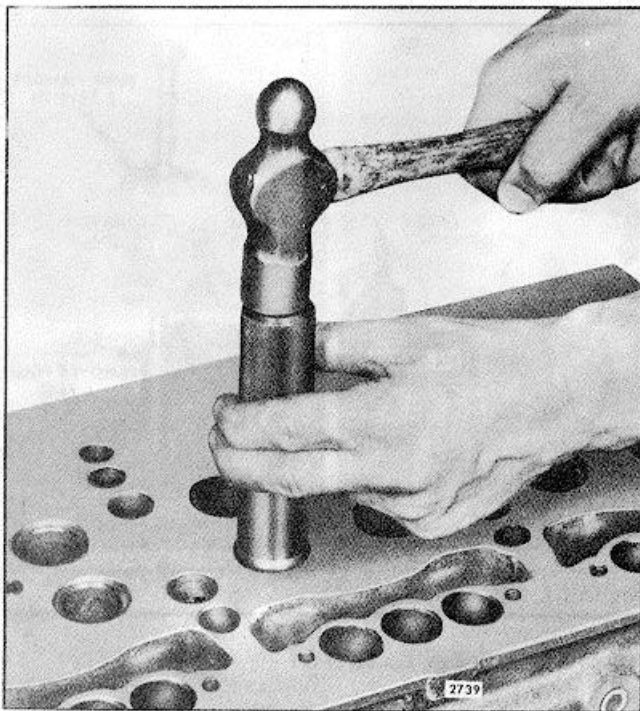

FIG. 14 Installing Valve Seat Insert
5. Drive the insert in place with installer J 1736 (two-valve head) or J 6568 (four-valve head) as shown in Fig. 14 until it seats solidly in the cylinder head.